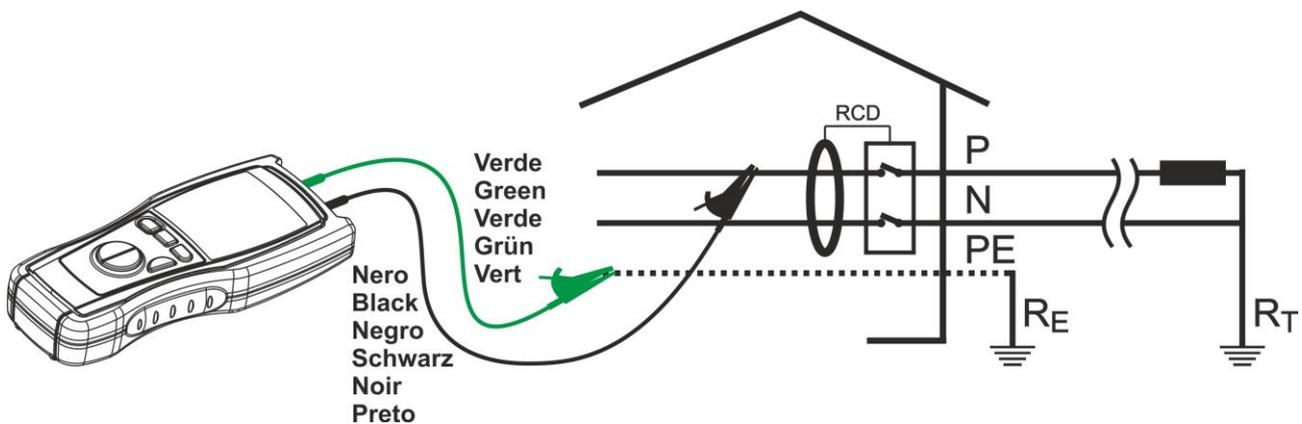

Fig. 12: Connection of the instrument's terminals during RCD test
6. Connect the green cable to the protective conductor (earth) and the black cable to the phase conductor at the lower end of the RCD under test ( Fig. 12)